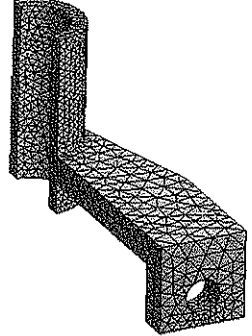

Figure 7-51 The mesh generated
- 8. Choose the **Update** tool from the **Mesh** contextual toolbar; the mesh is generated with all other options set to default, as shown in Figure 7-51.